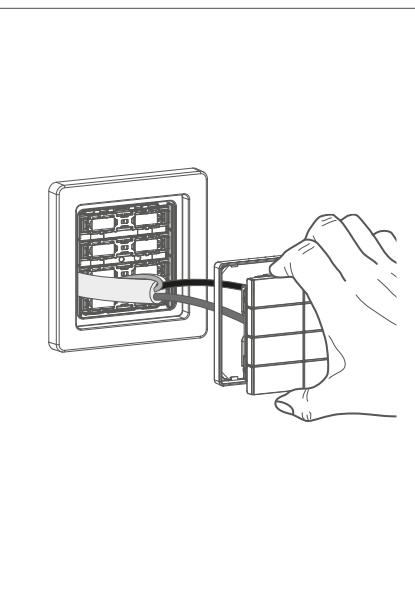

Fig. 19: Removing the device from the supporting ring
- 2 Remove the push-button module from the supporting ring. Hold on to the design frame (see Fig. 19).